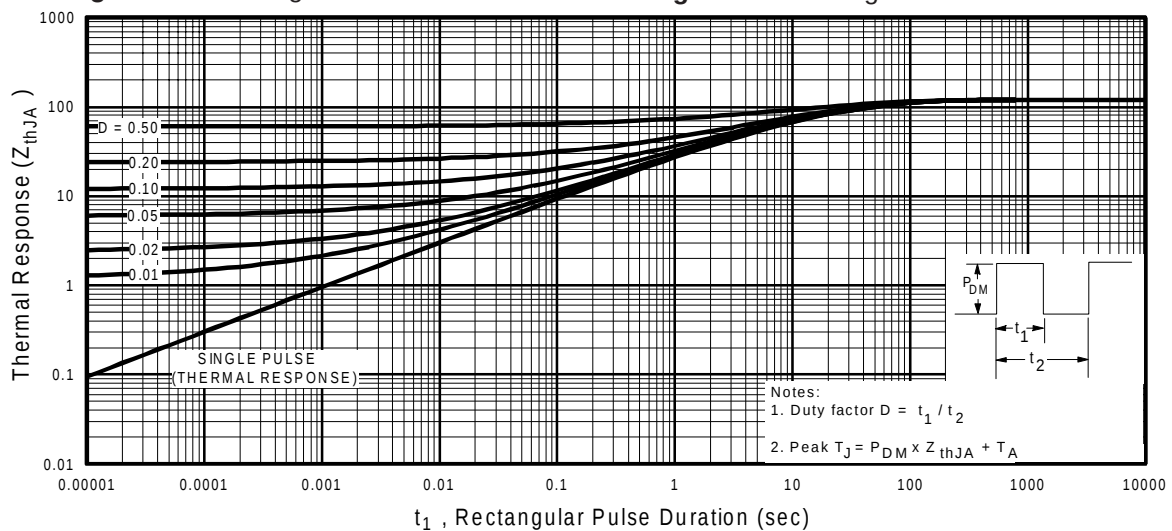

Fig 11. Maximum Effective Transient Thermal Impedance, Junction-to-Ambient
① Repetitive rating; pulse width limited by max. junction temperature. (See fig. 11)
② $V_{DD} = 15V$, starting $T_J = 25^\circ\text{C}$, $L = 13mH$